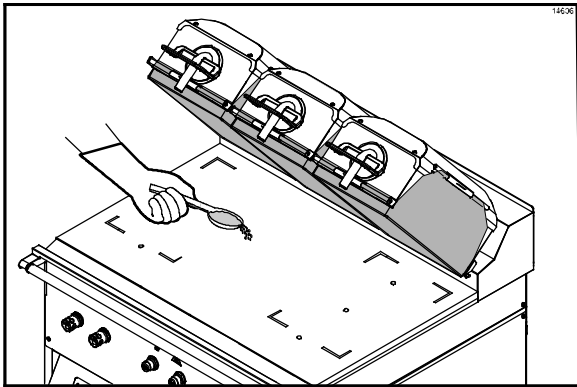

Figure 72
47. Using a sundae spoon, distribute two level spoonfuls of soy adhesion flakes over a warm 3 ft. (1 m.) lower grill surface, allowing the flakes to melt. (See Figure 72.)